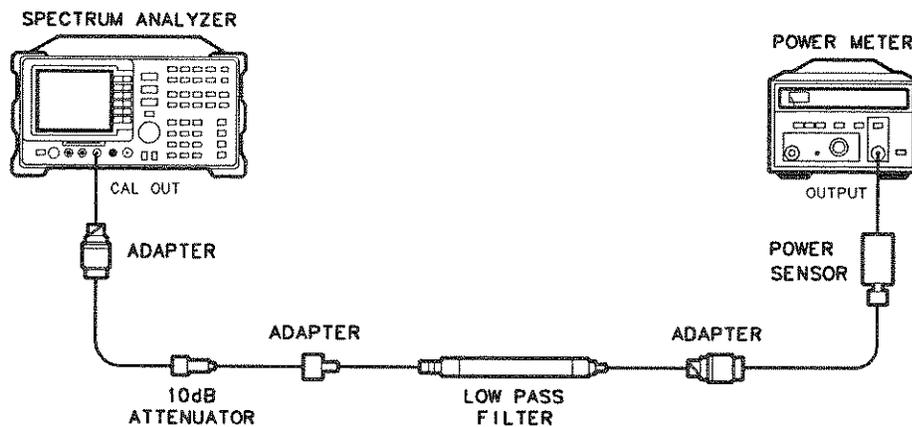

Figure 4-15. Calibrator Amplitude Accuracy Test Setup
11. Connect the equipment as shown in Figure 4-15. The analyzer should be positioned so that the setup of the adapters, LPF and attenuator do not bind. It may be necessary to support the center of gravity of the devices.